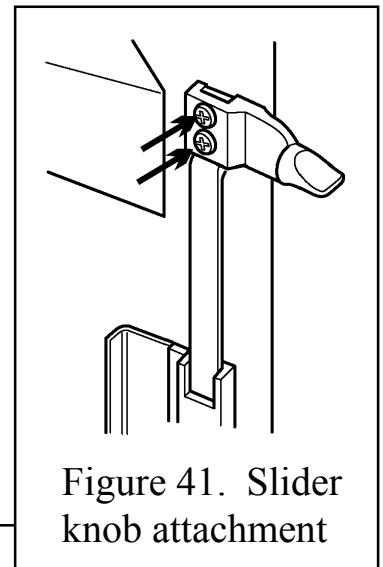

Figure 41. Slider knob attachment
2. Detach the slider knob from the slider bar (Colourway models - detach from the extension bracket). See figure 41.